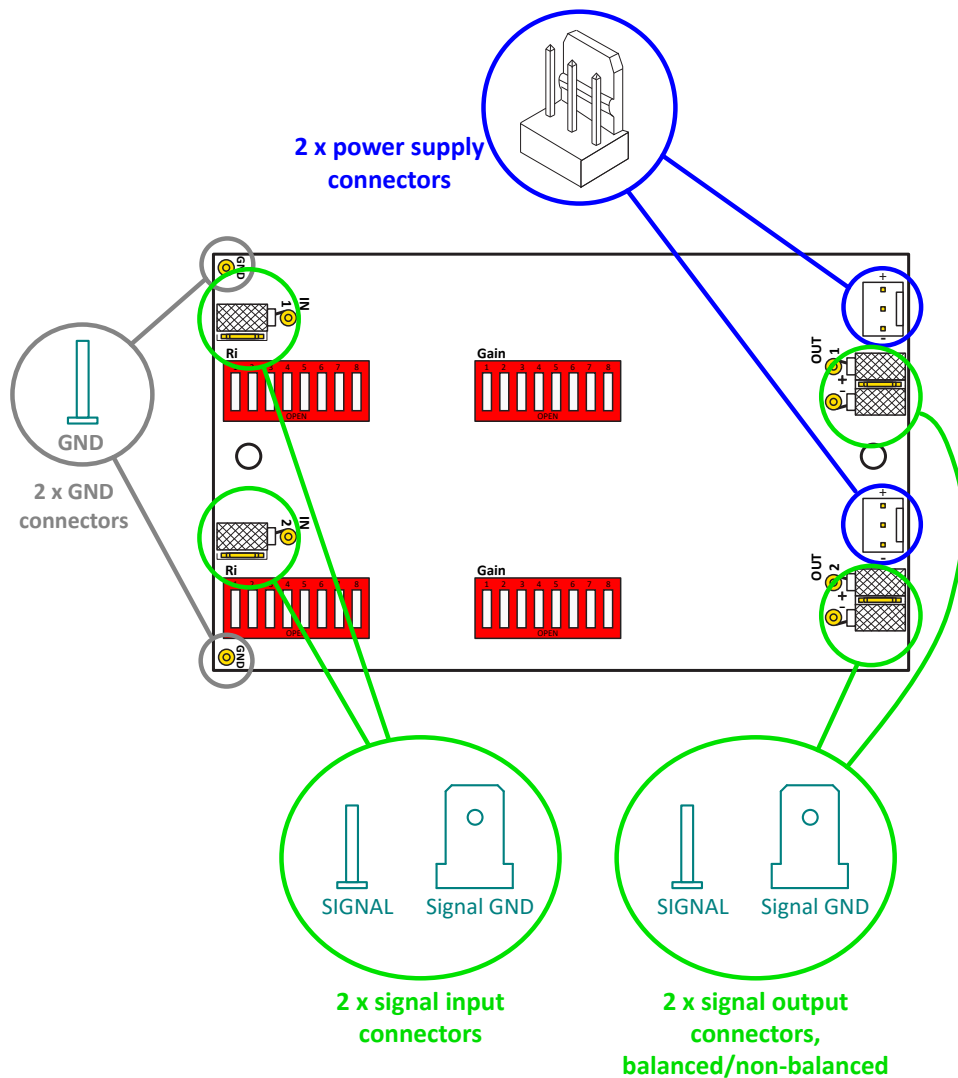
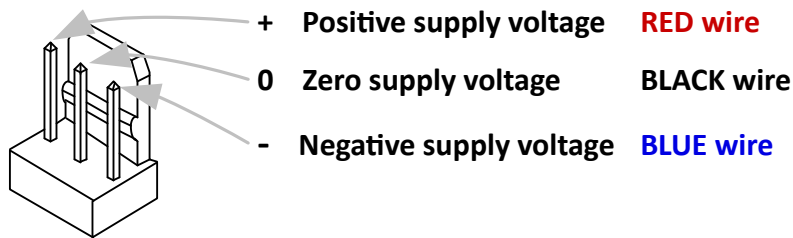
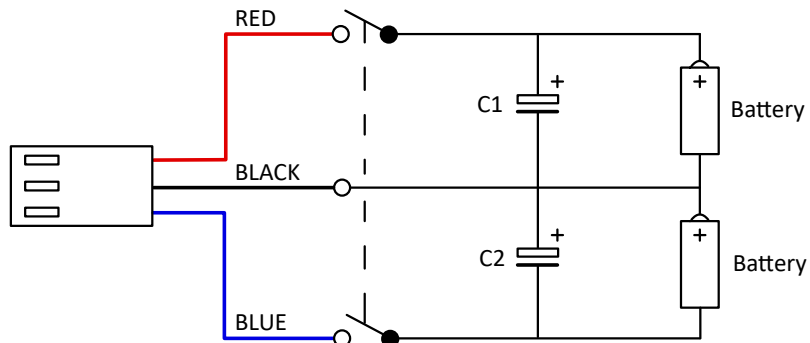

Fig. 1. CT100 connections
Fig. 2. CT100 power supply connections
Fig. 6. CT100 power supply example
Please also refer to Fig. 1 below.
The power supplies must be connected to the 3-way square pin headers as shown in fig. 1 and fig. 2 (exact connector dimensions specified in the CT100 Datasheet).
The colour codes (RED, BLACK, BLUE) in fig. 2 refer to the colours of the wires attached to the two separate power supply connector assemblies, which are included when purchasing a CT100.
The two round GND pin terminals (see fig. 1 above) must be connected with short wires to the solder tags on the attached Screen Plate. This is normally done by the manufacturer before shipping. Please observe that no conductor tracks on the PCB board unintended connect to the Screen Plate or other external circuits. See also MOUNTING below.
See CONNECTIONS fig. 1 above.
All above mentioned power requirements are valid for battery powering as well. Rechargeable batteries may be used as well, but a mains powered charging circuit will induce mains leakage into the ground circuit of the hi-fi system. Such charging circuits should be disconnected from the mains when the charging is ended in order to assure all advantages of battery powering. Each CT100 is supplied with two cables terminated with locking connectors intended for connecting CT100 to batteries or other power sources. The three wires are colour coded in accordance with fig. 2 above. (See CONNECTIONS). See also fig. 6 below. Fig. 6 shows an example of battery powering, where a dual pole on/off switch is used, and where two low-ESR reservoir capacitors are added to reduce supply impedance and to stabilize the supply voltage.
8. Connect the power supply. See CONNECTIONS fig. 1 and POWER SUPPLY above.